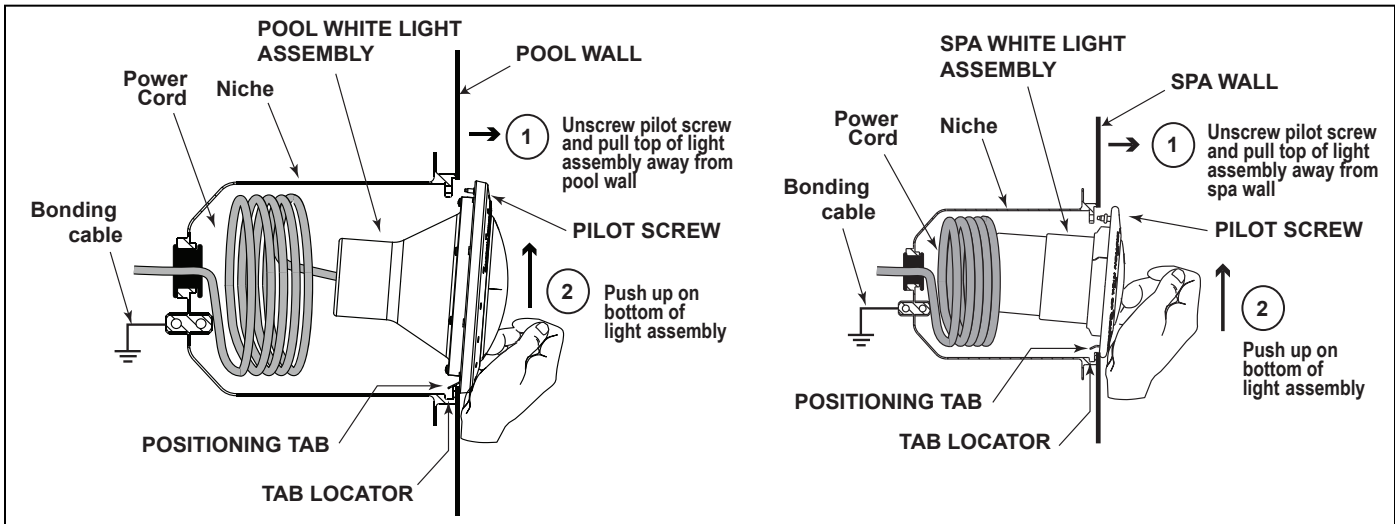

Figure 7. Removing the Pool and Spa White Light Assembly for Lamp Replacement
3. To remove the light assembly, unscrew the special pilot screw at the top of the face ring, remove light assembly from niche and gently place assembly on the deck. It is not necessary to drain down the pool or spa. See Figure 7.